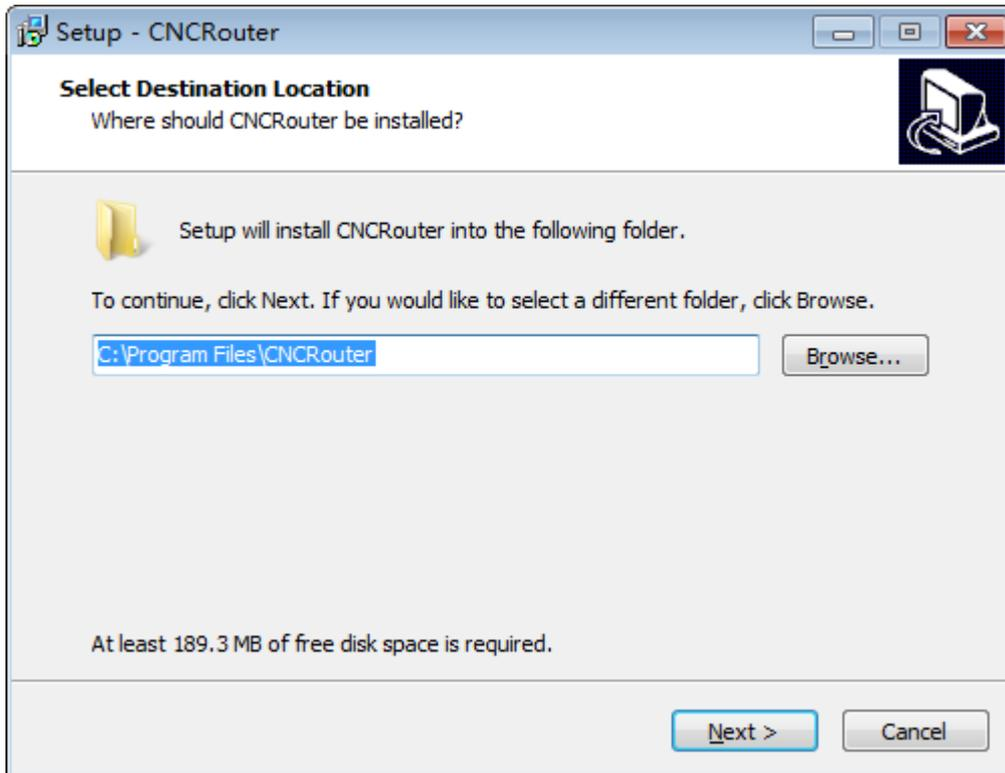

Figure 2.2-2
(4)After entering the password, click next. The installer will pop up the installation destination prompt dialog box, as shown in figure 2.2-2